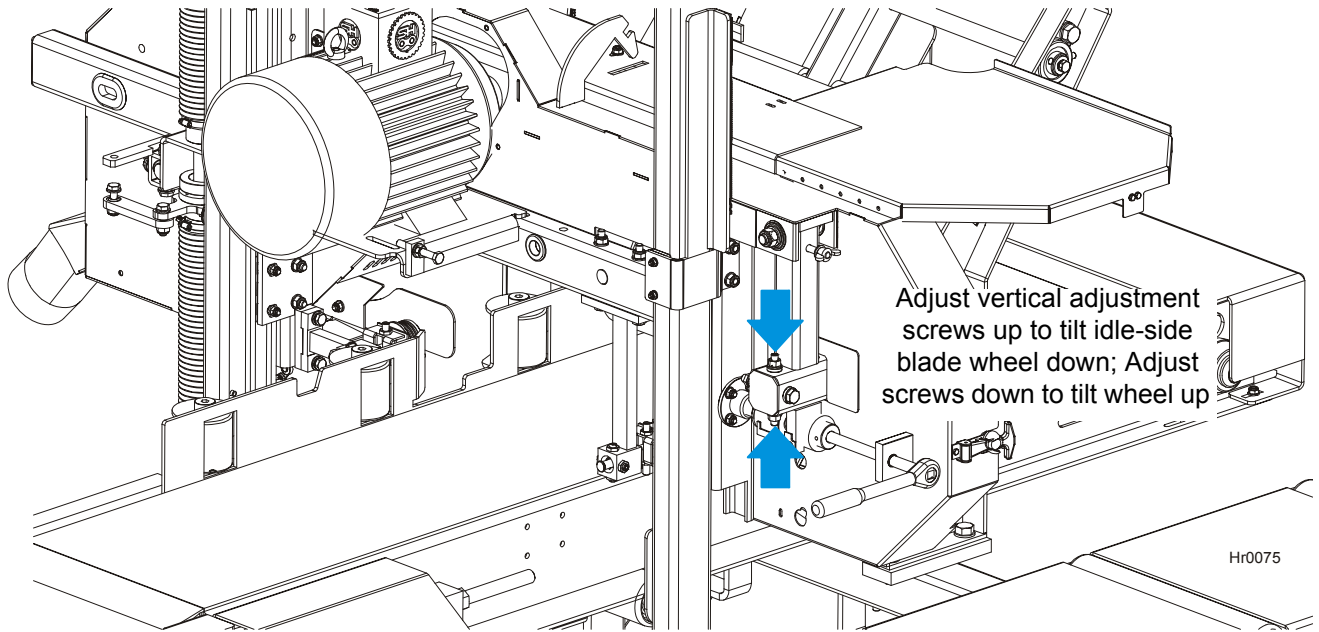

FIG. 4-4
**See Figure 4-4.** Use the vertical adjustment screws to adjust the idle-side blade wheel. To tilt the wheel up, loosen the bottom adjustment screw one quarter turn. Loosen the jam nut on the top adjustment screw and tighten the screw. Tighten the top and bottom jam nuts.